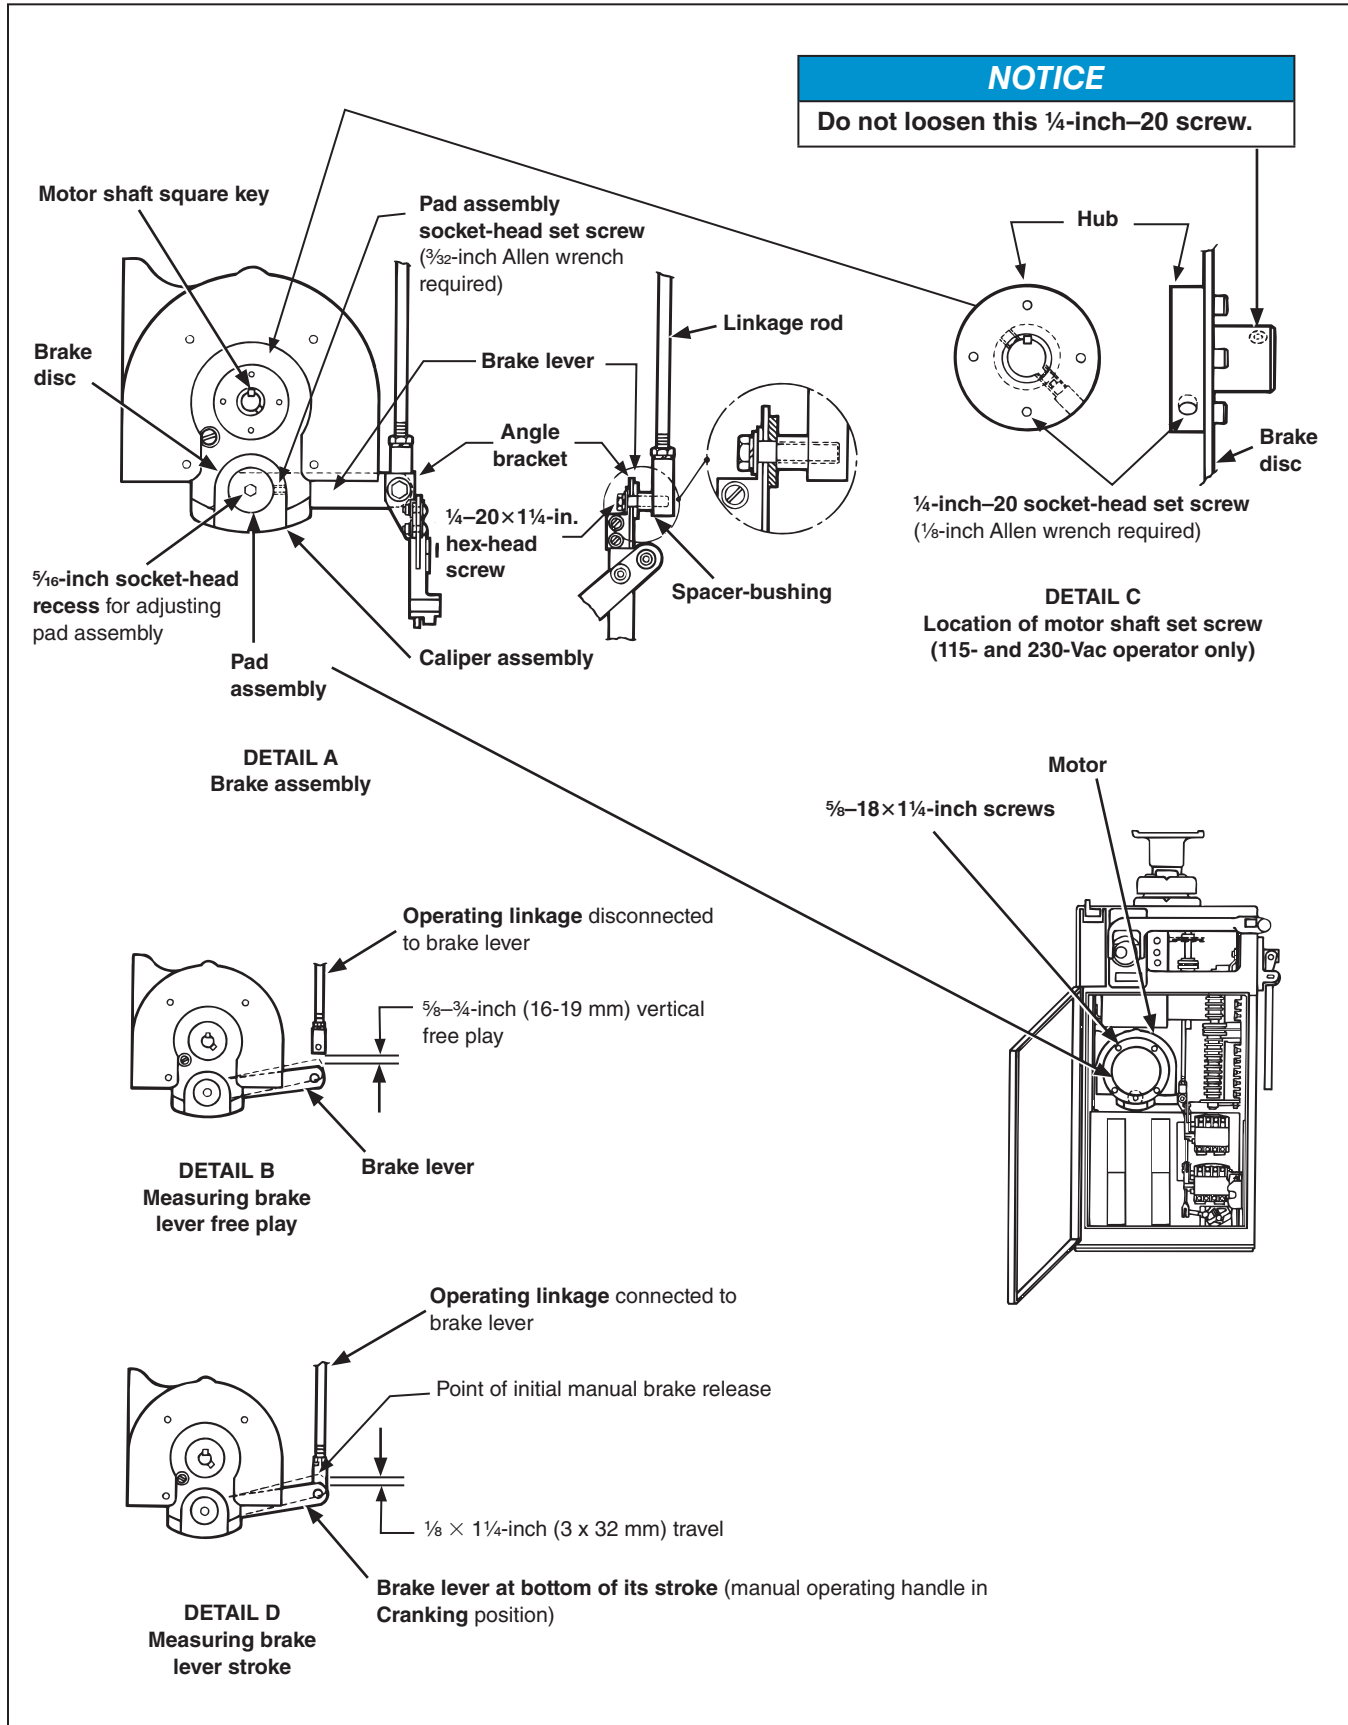

Figure 7. Brake inspection procedure.
- STEP 5.** Check operation of brake and readjust if necessary. See Figure 7 on page 18. The procedure for doing this is as follows:
- (d) Raise the brake lever and measure the vertical free play, as shown in Detail B in Figure 7 on page 18. This dimension should be ⅝-inch (16 mm) to ¾-inch (19 mm). Should the measurement be outside this range, brake-wear compensation is required; proceed to Step 5(d). If the measurement is within this range, reattach the linkage rod and tighten the ¼–20×1¼-inch hex-head screw securely; proceed to Step 5(i).
**Note:** 115-Vac and 230-Vac motors use a ¼-inch–20 socket-head set screw on the side of the brake disc hub, as shown in Detail C in Figure 7 on page 18. Loosen this set screw approximately one-half turn, using a ⅛-inch Allen wrench, before removing the motor.
- (f) Using a ⅜-inch Allen wrench, loosen the pad assembly socket-head set screw on the side of the caliper assembly approximately one-half turn. See Detail A in Figure 7 on page 18.
- (g) Using a ⅝-inch Allen wrench, rotate the pad assembly clockwise until the free play at the end of the brake lever is ⅝-inch (16 mm) to ¾-inch (19 mm), as shown in Detail B in Figure 7 on page 18. Now, tighten the ⅜-inch pad assembly socket-head set screw.
- (i) Insert the square key in the keyway, as shown in Detail A in Figure 7 on page 18. Slip the tubular spacer (if furnished) over the motor shaft and reinstall the motor. Position the motor so the two weep holes on the side of the housing face downward. Replace the four ⅝–18×1¼-inch screws used to attach the motor and tighten them securely.
Now, measure the distance the end of the brake lever travels from the point of initial brake release to the bottom of its stroke (which occurs when the handle locks into the **Cranking** position). This dimension should be ⅜-inch (3 mm) to ¼-inch (6 mm) See Detail D in Figure 7 on page 18. Should the measurement be outside this range, refer to the nearest S&C Sales Office.